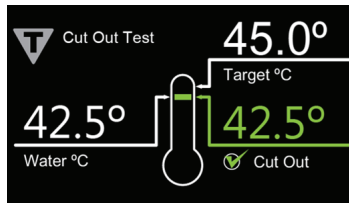

Figure 55 – Cut out test pass
3. The controller will cutout between 42.5° C and 45° C (Figure 55).